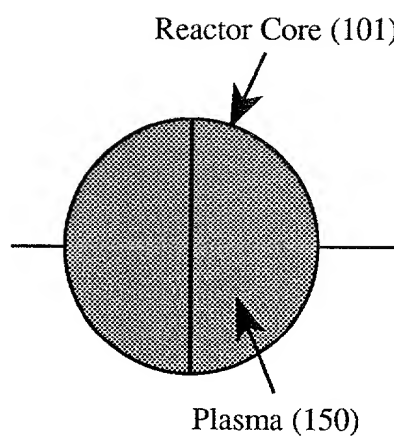

Figure 29(b)
Figure 29(a) and Figure 29(b) are schematic diagrams of a reactor core cross-section. Figure 29(a) shows a circle divided vertically by a single line, with two horizontal lines extending from the left and right sides. An arrow points from the text 'Reactor Core (101)' to the right half of the circle. Figure 29(b) shows a similar circle divided vertically by a single line, with two horizontal lines extending from the left and right sides. The interior of the circle is filled with a stippled pattern. An arrow points from the text 'Reactor Core (101)' to the right half of the circle. Another arrow points from the text 'Plasma (150)' to the stippled area on the right half of the circle.